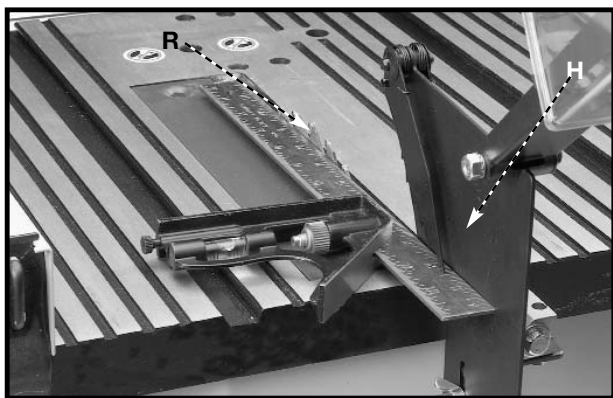

Fig. 24
8. Use a straight edge to see if the splitter (H) Fig. 24 is aligned with the saw blade (R). If an adjustment is necessary, the splitter (H) can be moved left or right and rotated.